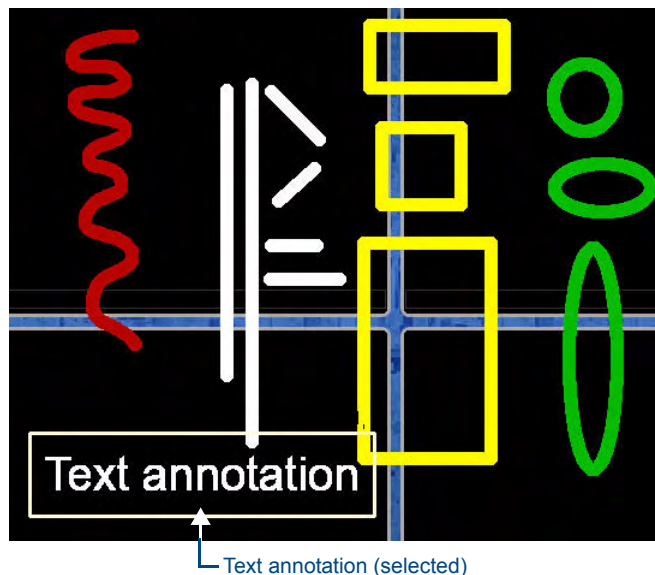

FIG. 116 Text annotations example
6. The text is displayed on-screen (FIG. 116).